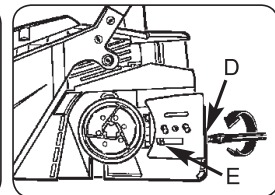

Fig. 3D
3. Using a screwdriver, run the adjustment screw (D) counterclockwise until the tang (E) (projecting prong) is to the end of its travel toward the clutch drum and sprocket (Fig. 3D).